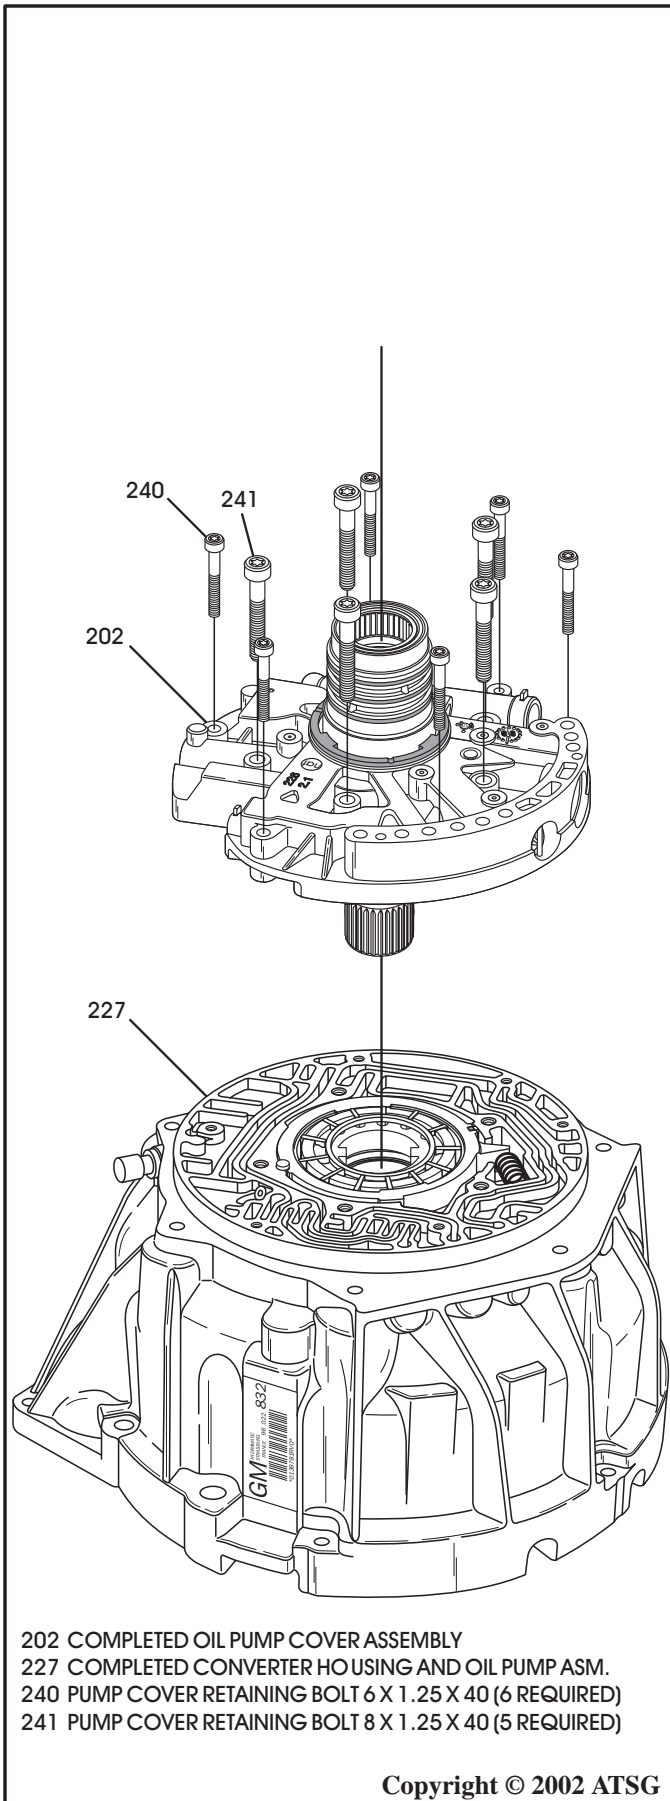

Figure 67
29. Install the pre-assembled oil pump cover onto the converter housing, as shown in Figure 67.